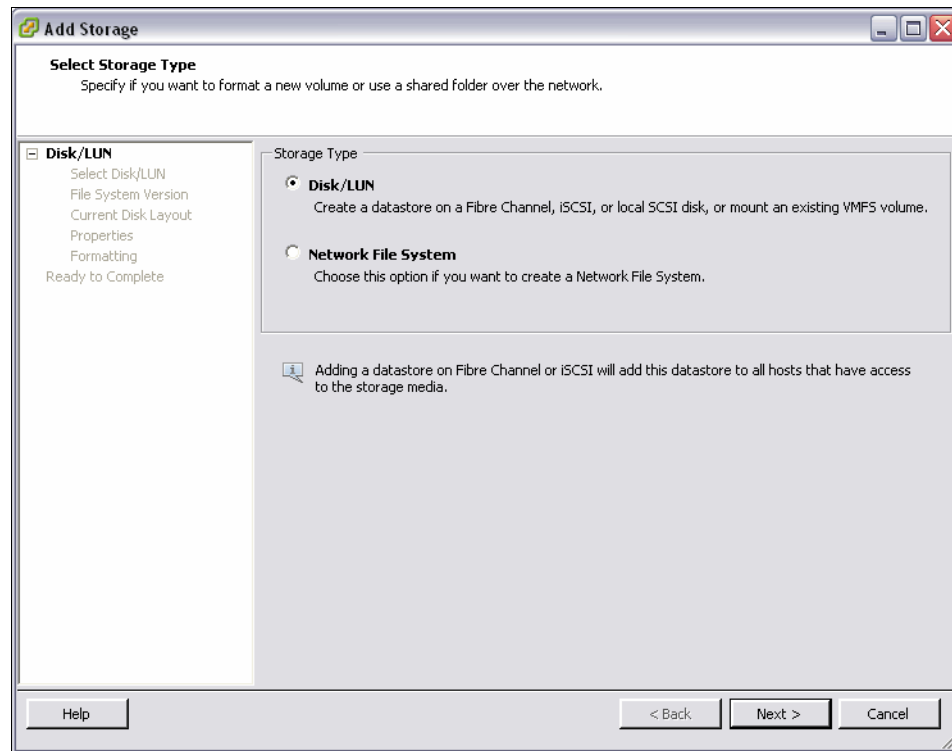

Figure 5-67 Select Disk/LUN menu
8. The Add Storage wizard opens, as shown in Figure 5-67. Select **Disk/LUN** and click **Next**.